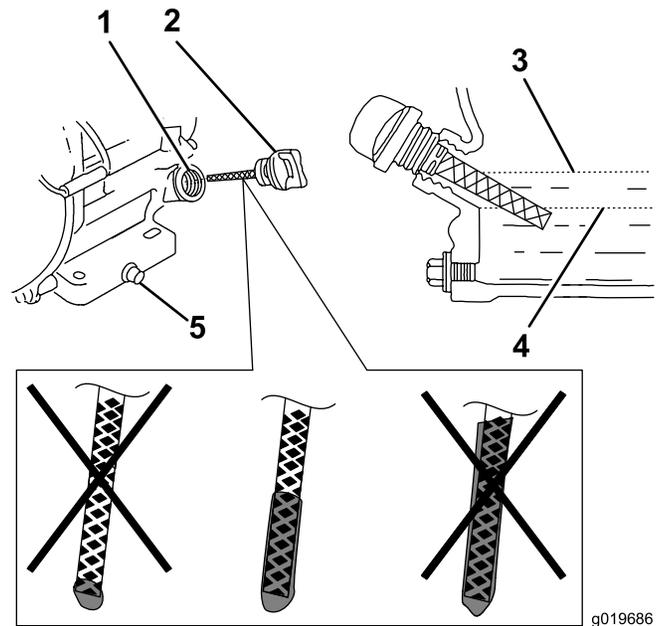

Figure 11
The machine comes from the factory with oil in the engine crankcase, however, it may be necessary to add oil (Changing the Engine Oil (page 15)). Add only enough oil to raise the level to the Full mark on the dipstick; refer to Figure 11.
5. Remove the dipstick again and look at the end. If the engine oil level is low, slowly pour only enough oil into the filler tube to raise the level to the middle of the dipstick (Figure 11).